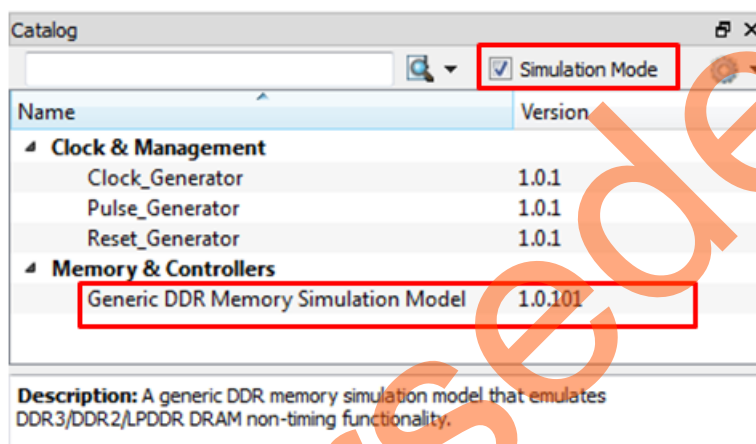

Figure 23 • Generic DDR Memory Simulation Model
3. Under **Memory and Controller**, select **Generic DDR Memory Simulation** model and drag into the SmartDesign testbench canvas. Figure 23 shows the Simulation mode.